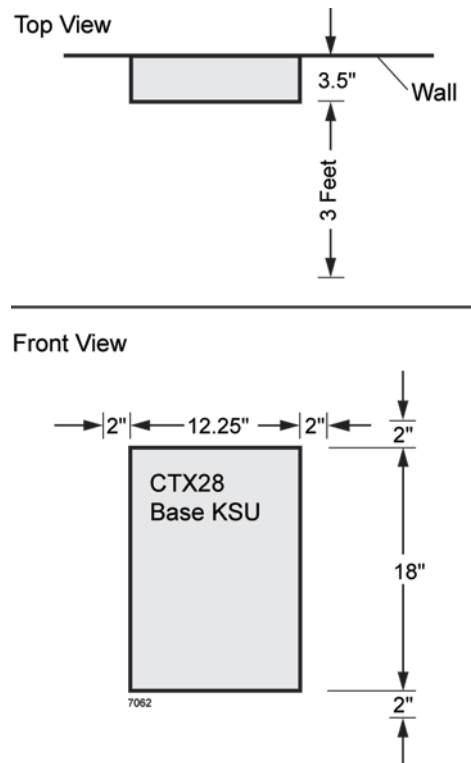

Figure 1-1 CTX28 Base KSU Clearance Requirements
The minimum clearance requirements for the Strata CTX28 Base cabinet is shown in Figure 1-1. Refer to Figure 1-5 on page 1-7 for CTX28 KSU mounting instructions.
1. Make sure the location for the CTX28 meets the minimum clearance requirements specified in Figure 1-1 on page 1-2.